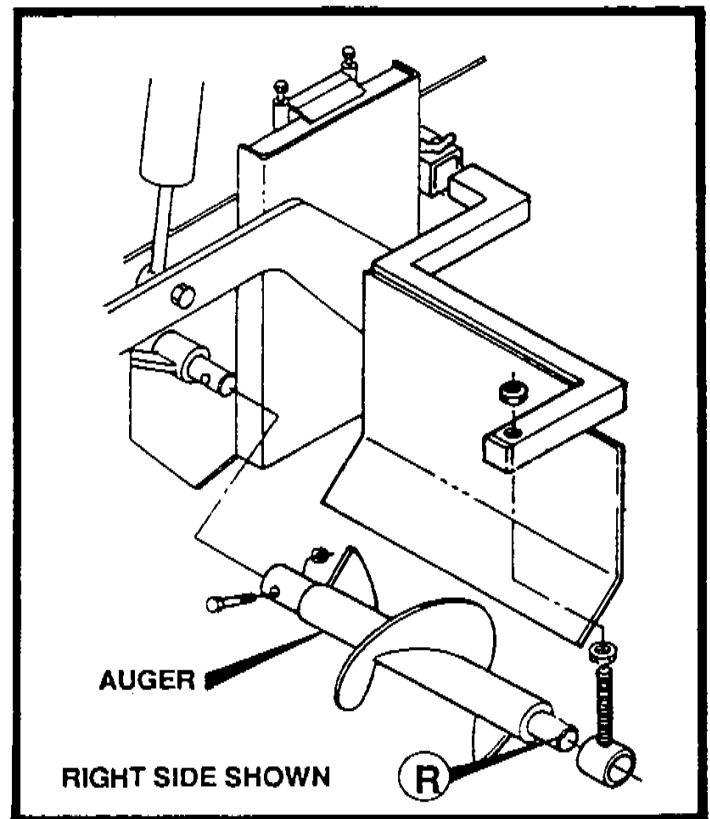

FIGURE 14
2. After identifying the right and left auger extension, extend the screed extension fully. See figure 14.